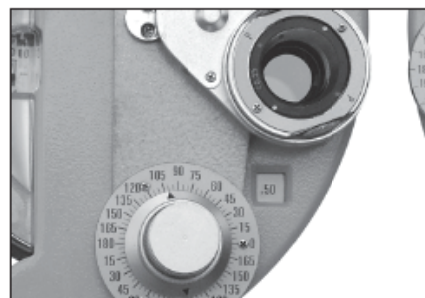

Fig.37
(3) Turn the lens again to make a comparison. If what Testee sees is the most clearest as shown in Fig.37, move cross cylindrical lens axially towards red dot by 5° , enabling it to become 100° .
(4) Turn the lens again. If Testee cannot report any difference, precise examining cylinder axis is completed (with astigmatic axis of 100°).
(5) Now to conduct precise measurement of cylinder power (C), and turn letter P to original axis (see Fig.37).